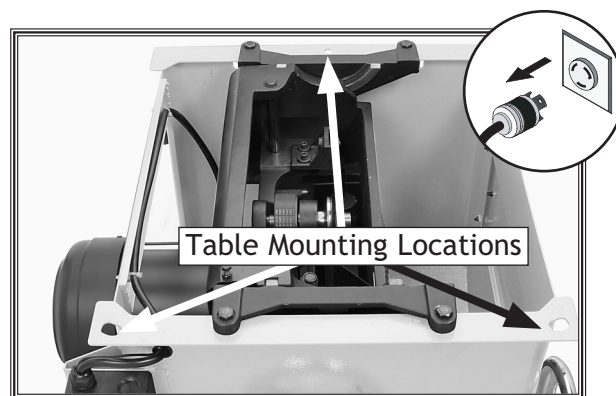

Figure 71. Table mounting bolt holes.
6. To adjust the table, loosen the three bolts in the table mounting locations with a 17mm wrench (see **Figure 71**) and slightly tap the table. Repeat **Steps 2-6** until the blade and miter slot are parallel. Do not forget to tighten the table mounting bolts when finished.